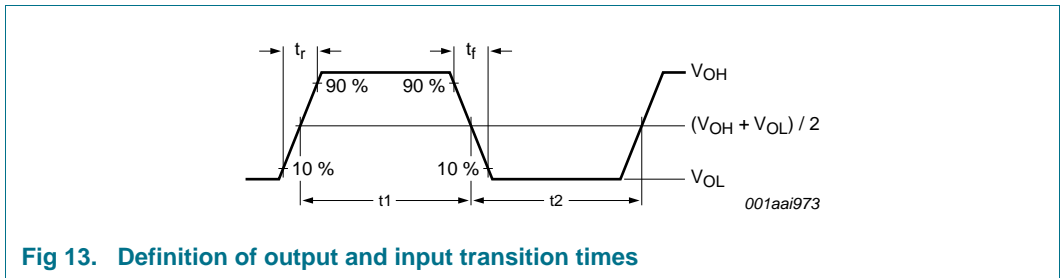

Fig 13. Definition of output and input transition times
- [5] The transition time and the duty factor definitions are shown in Figure 13 on page 20;  $\delta = t_1 / (t_1 + t_2)$ .